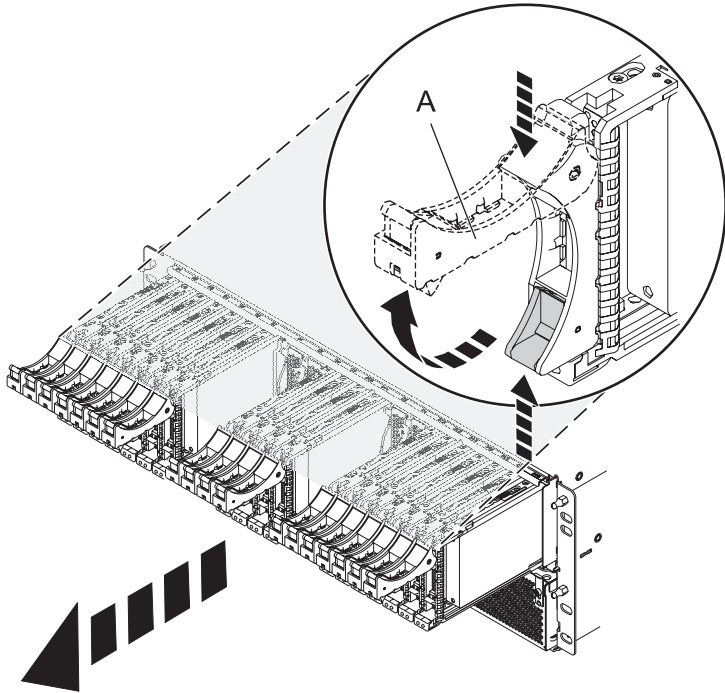

Figure 62. Removing the drives from the backplane
4. Remove the drives and fillers as shown in Figure 62.